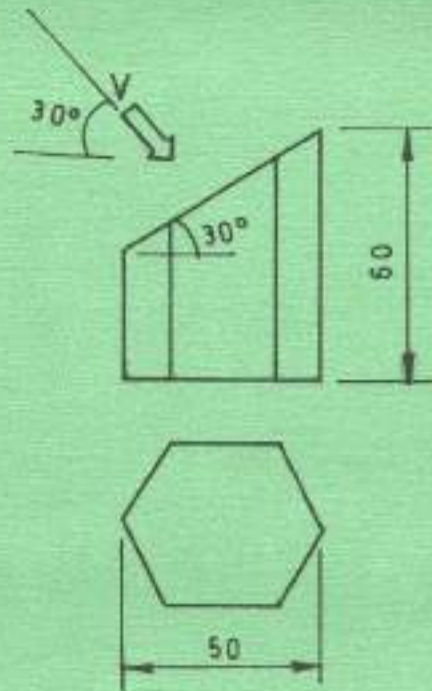

Fig. 2
- (b) **Figure 2** shows a hexagonal prism cut as shown.